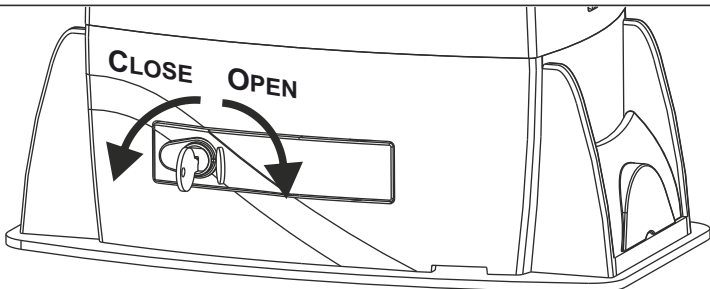

Fig. 26
- Open the lock cover, insert the key and rotate 90° clockwise (Fig. 26)